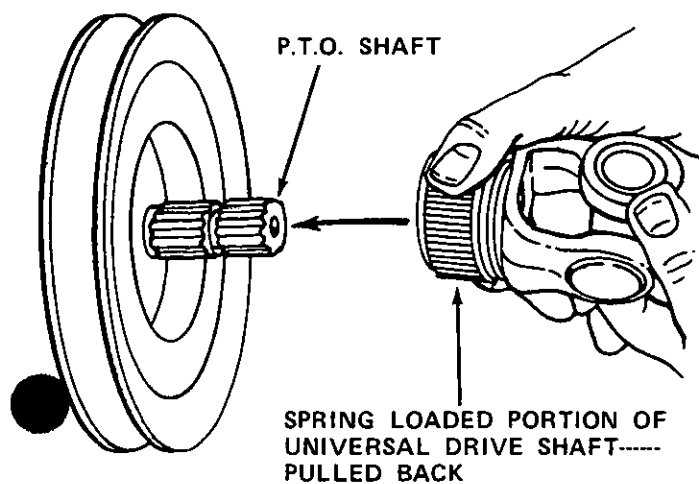

FIGURE 10
3. Lift the universal drive shaft on snow thrower. Pull back on spring loaded portion. See figure 10. Slip the universal drive shaft over the PTO shaft. Release the spring loaded portion to lock.